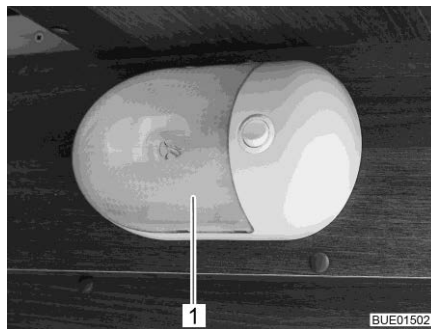

Fig. 295 Surface mounted light
- Carefully push the transparent cover (Fig. 295,1) together from both sides, pull it lightly from the switch and pull it off forwards.